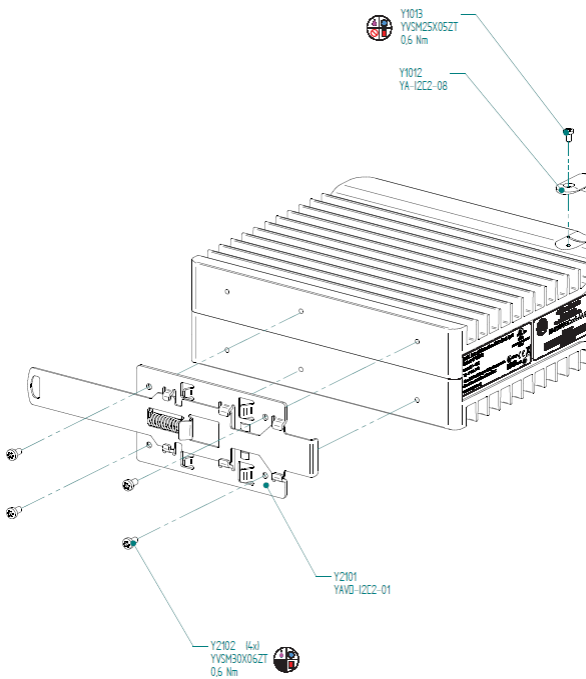

Figure 21: DIN-Rail Mount Bracket Assembly CPE400
1. Using a T10 TORX screwdriver, remove the four machine screws (Figure 21) that secure the DIN-Rail Mounting Bracket to the CPE400 chassis.